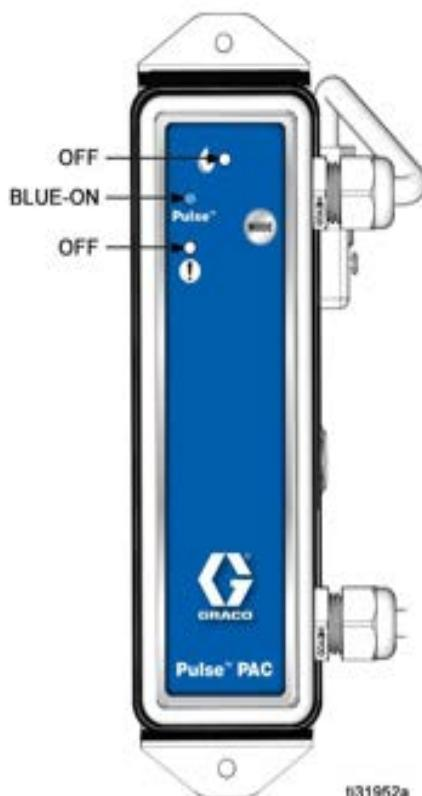
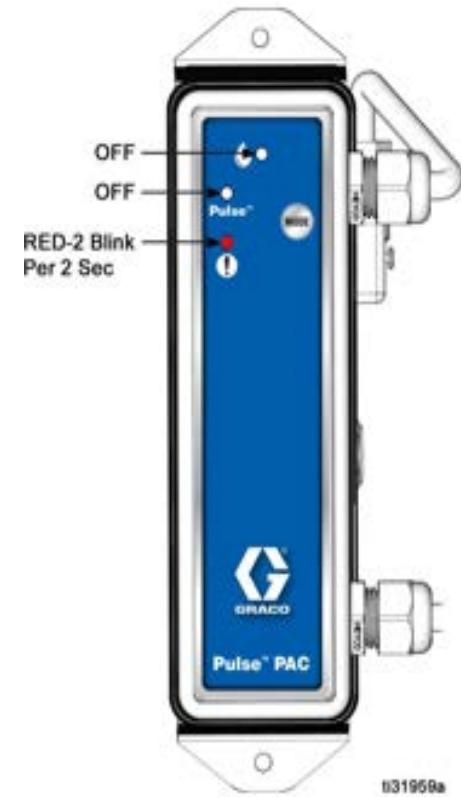

FIG. 16
FIG. 23
**NOTE:** See **Pulse Mode, No Errors** (FIG. 16, page 12) and **Work Off Line Mode, No Errors**, FIG. 19, page 13).
- In the Pulse (preferred) (FIG. 16) mode, the pump will not operate unless it receives authorization from the Pulse software.
**NOTE:** In this mode, the Pulse (B) continuous blue light is on.
LEDs on the PAC illuminate and/or flash to report the status or error code of the PAC. Refer to FIG. 16 - FIG. 23 to determine the PAC status.